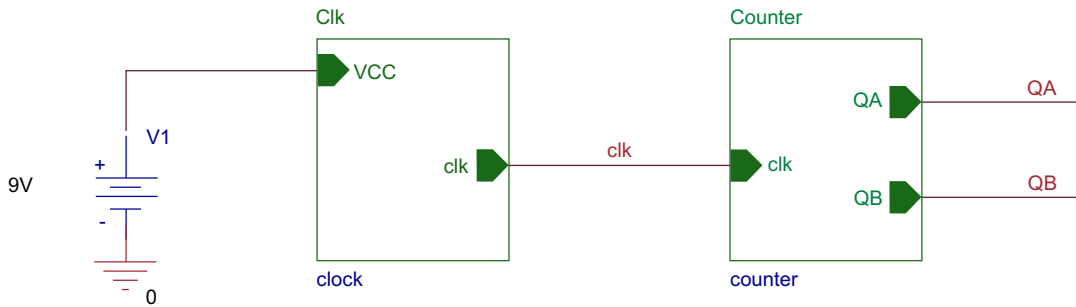
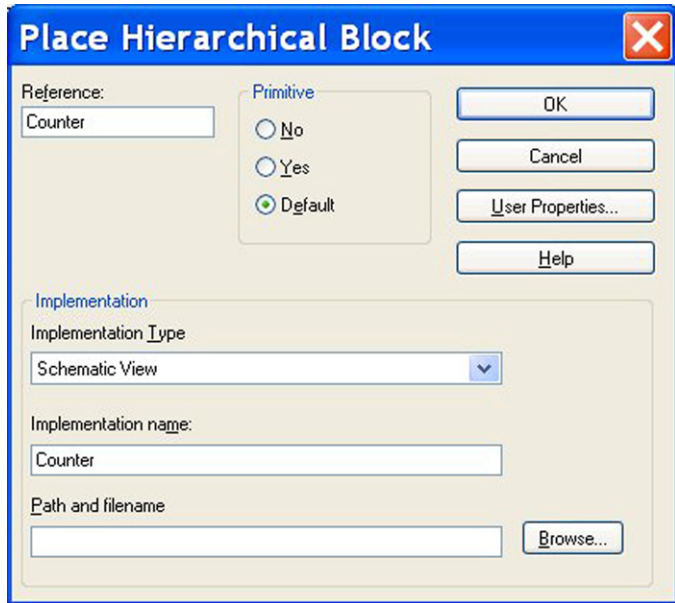

FIGURE 20.40
FIGURE 20.47
Figure 20.40 shows a hierarchical design put together based on the 555 clock oscillator in Chapter 19 connected to the mod 3 sync counter in Chapter 18.
You will create a hierarchical design with two hierarchical blocks at the top level referencing the clock and counter circuits as seen in Figures 20.40 and 20.41. Hierarchical ports will be added to the clock and counter circuits such that hierarchical pins will automatically be added when the hierarchical blocks are created.
9. Open the top-level **Digital Counter** schematic, select **Place > Hierarchical Block** and enter the details as shown in Figure 20.46. Leave the **Path and filename** empty. Click on OK and draw a rectangular block. The VCC and clk pins will appear as seen in Figure 20.40.
10. Draw another hierarchical block as in Step 9 and name this **counter** (Figure 20.47). Click on OK and position the hierarchical pins as shown in Figure 20.40.
11. Complete the circuit as in Figure 20.40.